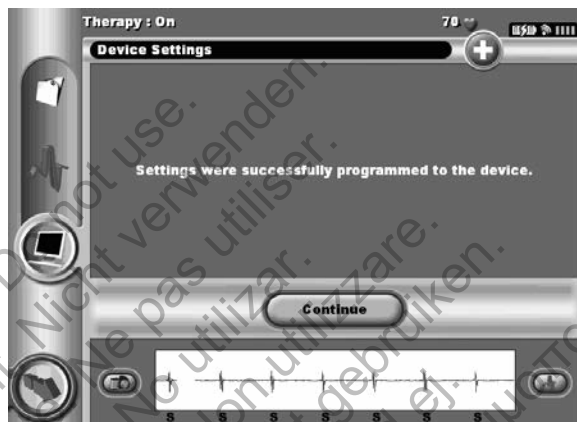

Figure 33: Confirmation of programming
7. Select the Program button to permanently program the SQ-RX device. A screen will appear to confirm that the SQ-RX device settings were programmed (Figure 33). If the SQ-RX device does not accept the SQ-RX device programming, a Program Device alert screen will appear. Select the Try Again button to return to the Device Settings screen.